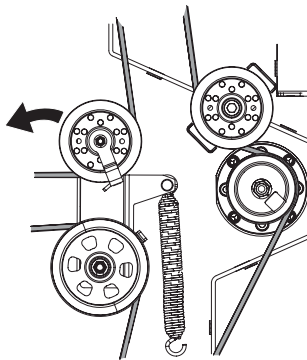

Figure 54
- Pull the right side of the PTO belt rearward and place the narrow V-side of the PTO belt into the PTO pulley. See Figure 54.